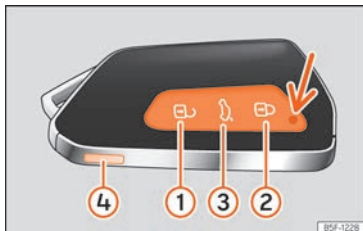

Fig. 71 Vehicle key
Key to » Fig. 71
If you press button » Fig. 71 ④ once the key blade is unlocked and a ring appears as a
When a button on the vehicle key is pressed, the control lamp flashes » Fig. 71 (arrow) once briefly, but if the button is held down for a longer period the control lamp flashes several times, such as in convenience opening.